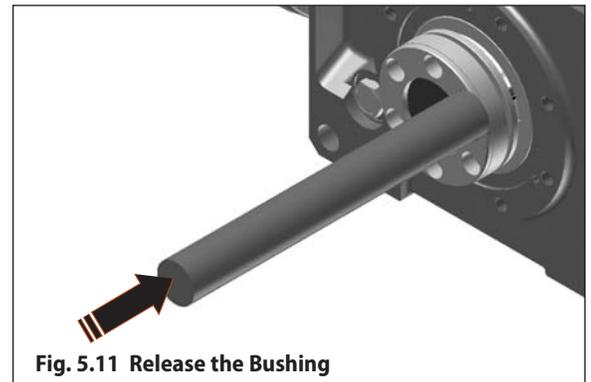

Fig. 5.11 Release the Bushing
Step 5 – Place a copper or brass bar against the flange of the Taper-Grip® Bushing and carefully strike end of bar with a hammer to release bushing (see Fig 5.11).